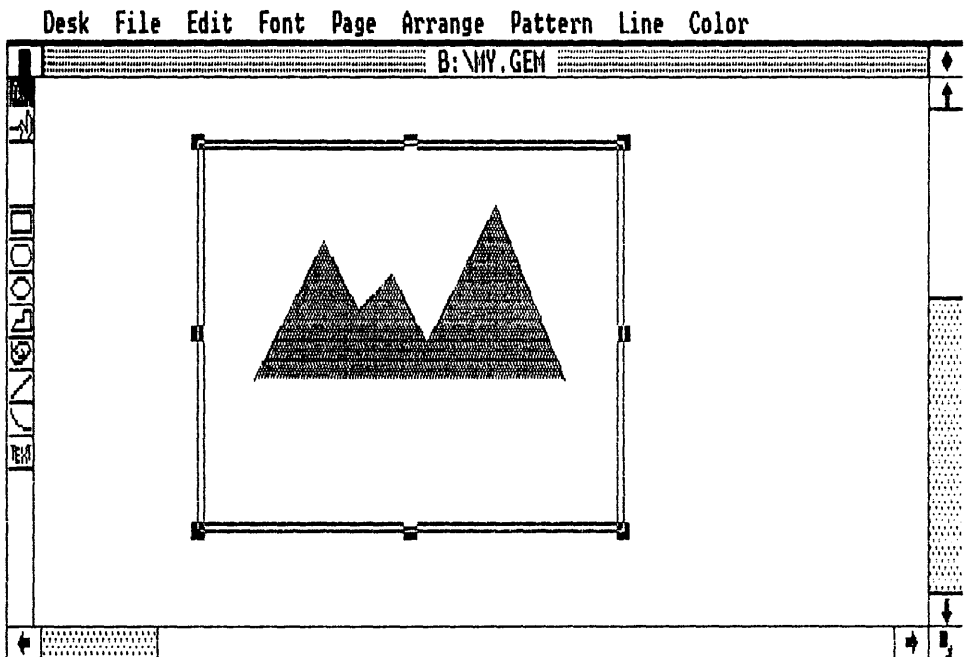

Fig. 4-11. Designing a symbol for use in a GEM Graph Symbol Graph. The Group command is used for making all of the elements current.
- ☐ Choose the **Group** command. The entire symbol and box are a single element (Fig. 4-11).